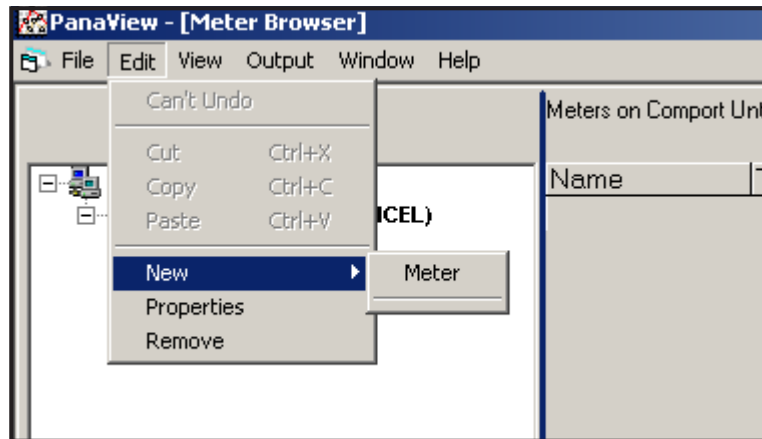

Figure 35: New Option in the *Edit* Menu
2. Click on the *New* option in the *Edit* menu (see *Figure 35* below).